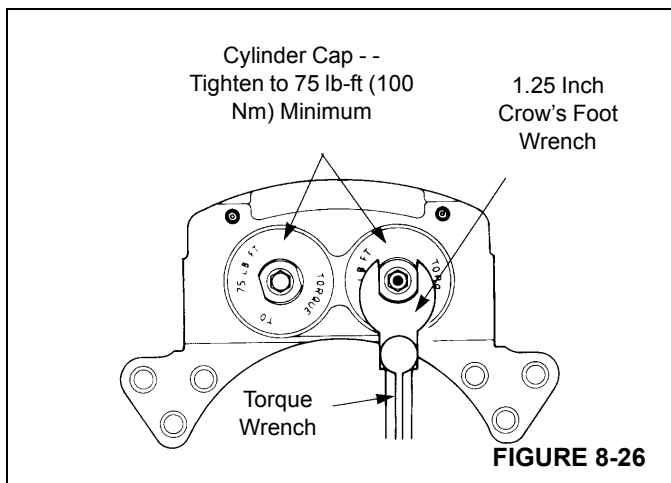

FIGURE 8-26
6. Install the cylinder caps in the caliper housing. Tighten the cylinder caps to 75 lb-ft (102 Nm) minimum as shown in (Figure 8-26).